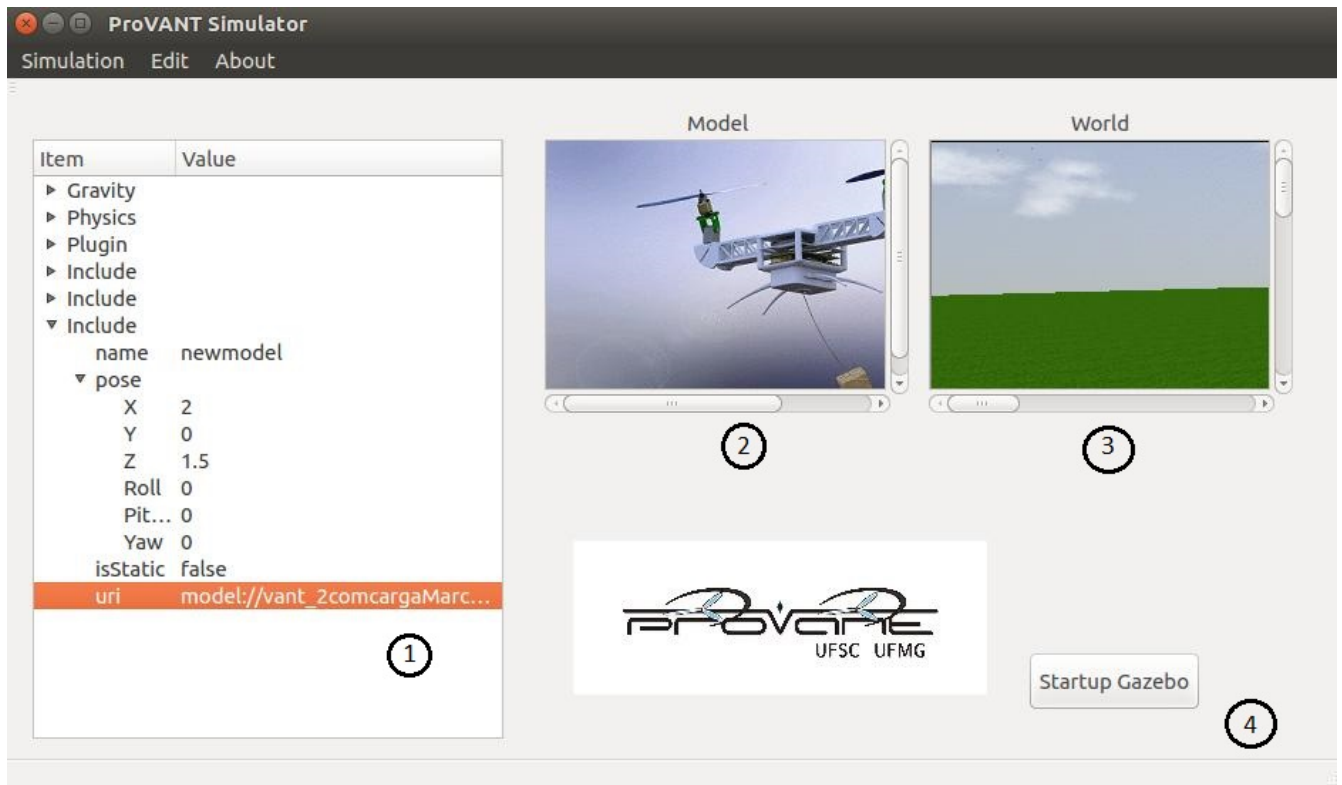
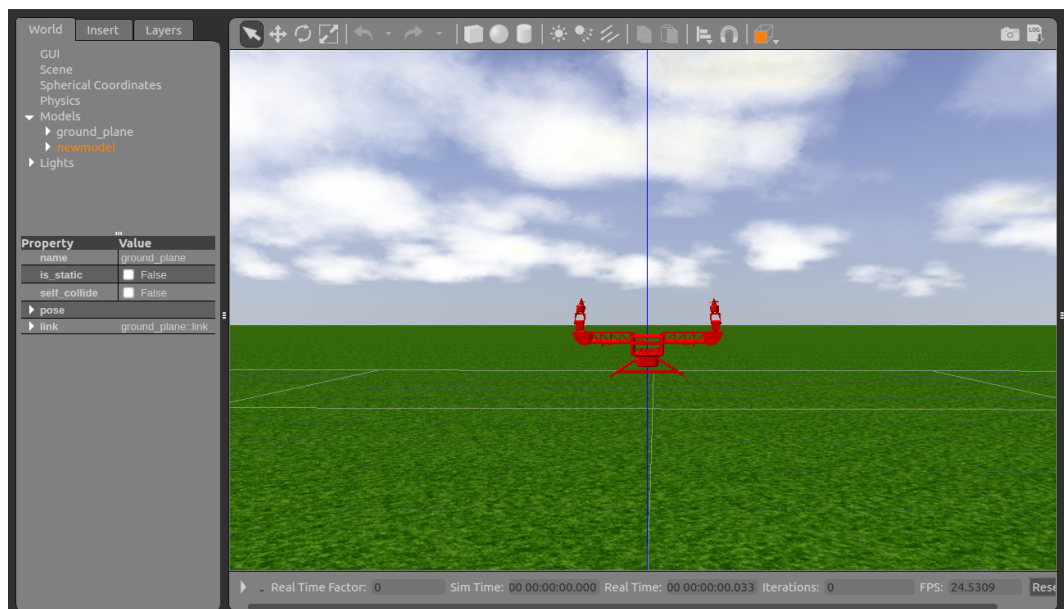

Figure 3.3: Simulation settings window
Figure 3.9: Gazebo's home window
After choosing the UAV and the simulation scenario, an illustrative image of the scenario will appear in the GUI. Thus, it is possible to verify if it was selected correctly, as shown in Figure 3.3, through item 3.
After setting everything up, the user must press the button *OK* (item 10). The simulation settings window (Figure 3.3) will be shown again. The simulation can then be initialized with the selected UAV model, scenario, control strategy and instrumentation, by pressing the button *Startup Gazebo* (item 4) of Figure 3.3. The simulator Gazebo will be started, as shown in Figure 3.9.